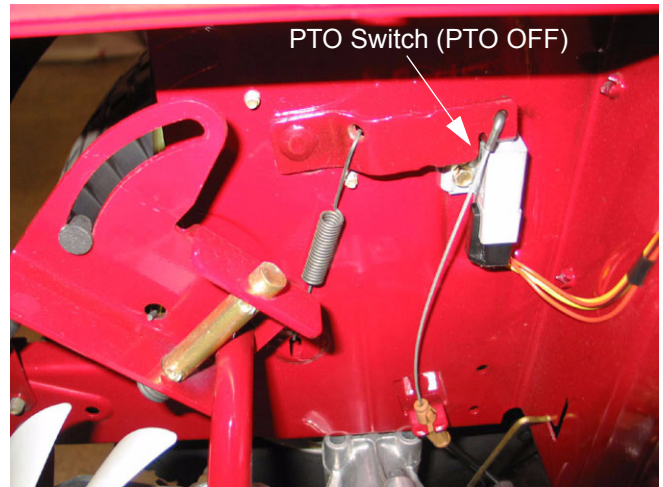

Figure 17.25
17.25. The **PTO Switch** is located just to the rear of the mounting point for the PTO lever. See Figure 17.25.